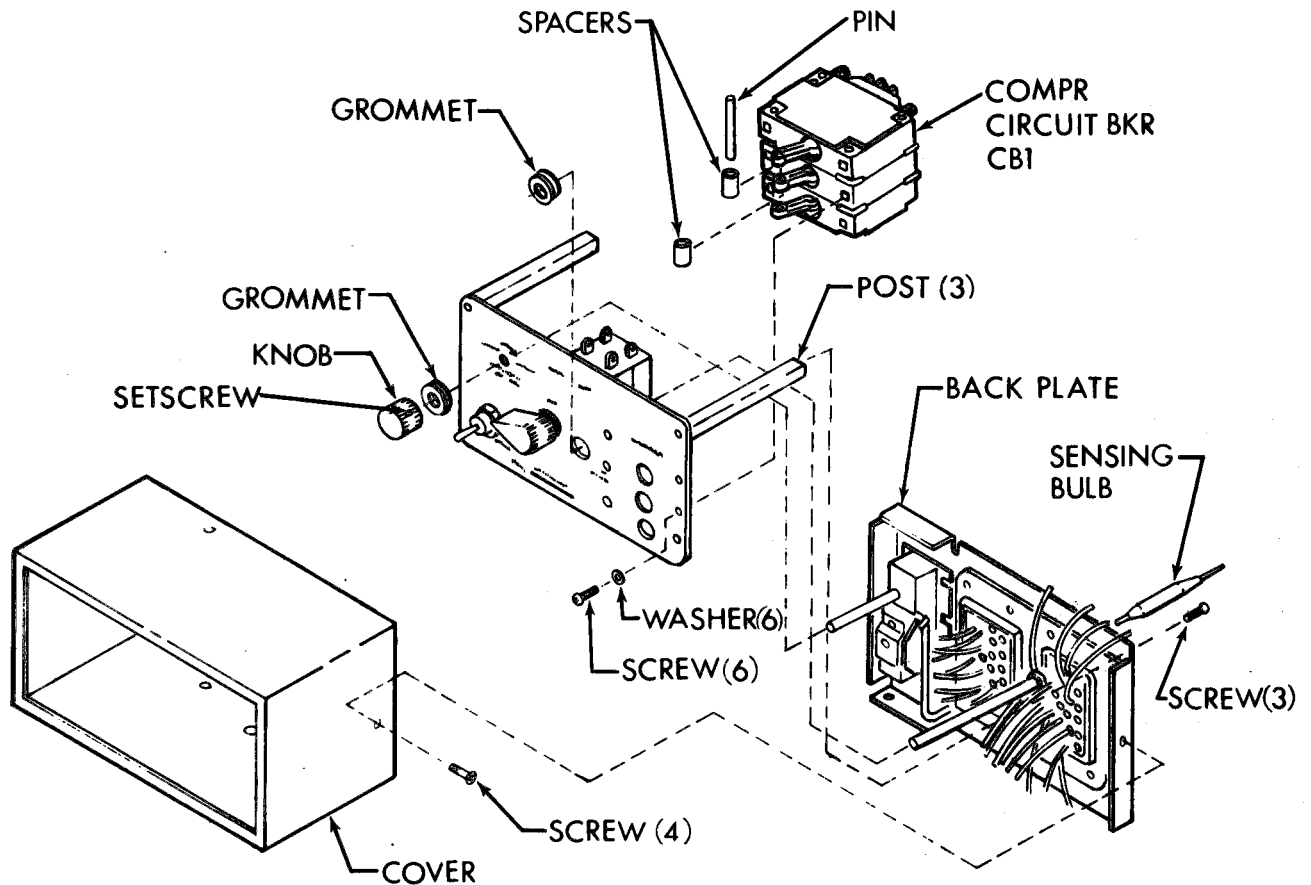

Figure 4-21. COMPR CIRCUIT BKR (Compressor Circuit Breaker) CB1
(See fig. 4-21.)
(3) See figure 4-21 and remove four screws and pull cover off.
(4) Loosen setscrew in the TEMPERATURE SELECTOR knob. Remove knob.
(5) Remove three screws from the posts and slip back plate off.
(6) Tag and disconnect wires from the circuit breaker.
(7) Remove pin and spacers from circuit breaker toggles.
(8) Remove screws and pull circuit breaker from the panel.